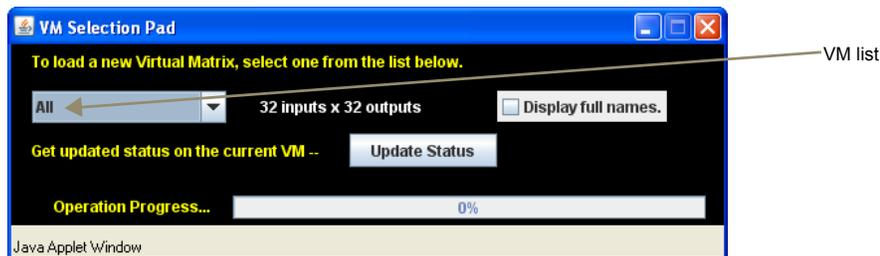

FIG. 100 VM Selection Pad
2. Click Update Status (FIG. 100).